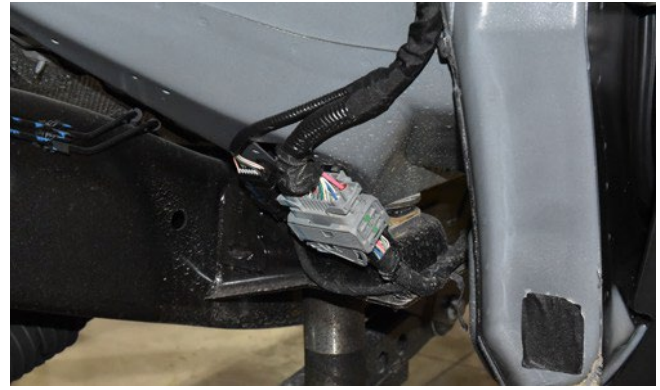

Figure 4: Passenger side (left) Driver side (right)
- A. Carefully remove wire harness connectors from factory positions (fig. 4) and unclip the harness from the pinch weld to allow slack.